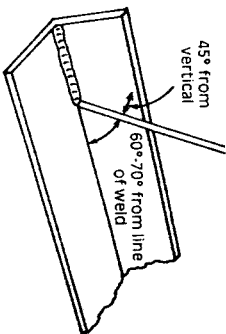
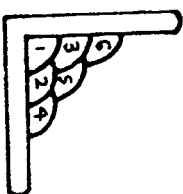

Figure 16 - Electrode position for HV fillet weld
Figure 17 - Multi-runs in HV fillet weld
A piece of angle iron is a suitable specimen with which to begin, or two lengths of strip steel may be tacked together at right angles. Using a 3.2mm Ferrocraft 21 electrode at 100 amps, position angle iron with one leg horizontal and the other vertical. This is known as a horizontal-vertical (HV) fillet. Strike the arc and immediately bring the electrode to a position perpendicular to the line of the fillet and about 45° from the vertical. Some electrodes require to be sloped about 20° away from the perpendicular position to prevent slag from running ahead of the weld. Refer to Figure 16. Do not attempt to build up much larger than 6.4mm width with a 3.2mm electrode, otherwise the weld metal tends to sag towards the base, and undercut forms on the vertical leg. Multi-runs can be made as shown in Figure 17. Weaving in HV fillet welds is undesirable.